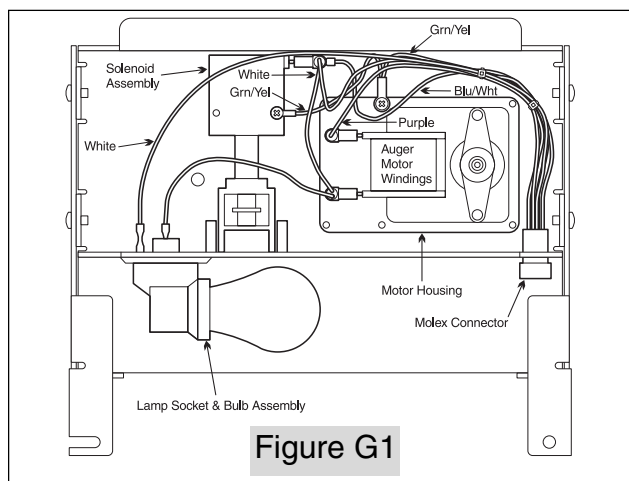

Figure G1
5. Remove screw securing green ground wire to motor housing on back of Motor Cover. (See Figure G1)
6. Disconnect two leads hooked to Auger Motor windings (Leads are purple and white - See Figure G1).
5. Remove screw securing green ground wire to Solenoid Assembly on the back of Motor Cover. (See Figure G1)
6. Disconnect two leads hooked to solenoid coil (Leads are blue with a white stripe and white - See Figure G1).